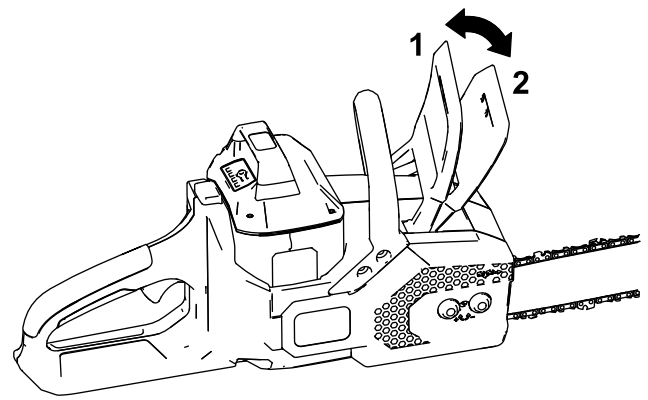

Figure 8
6. Ensure that the chain brake is in the OPERATING position (Figure 8).
Whenever you are not using the saw or are transporting the saw to or from the work area, move the chain brake to the STOP position (Figure 8) and remove the battery pack.